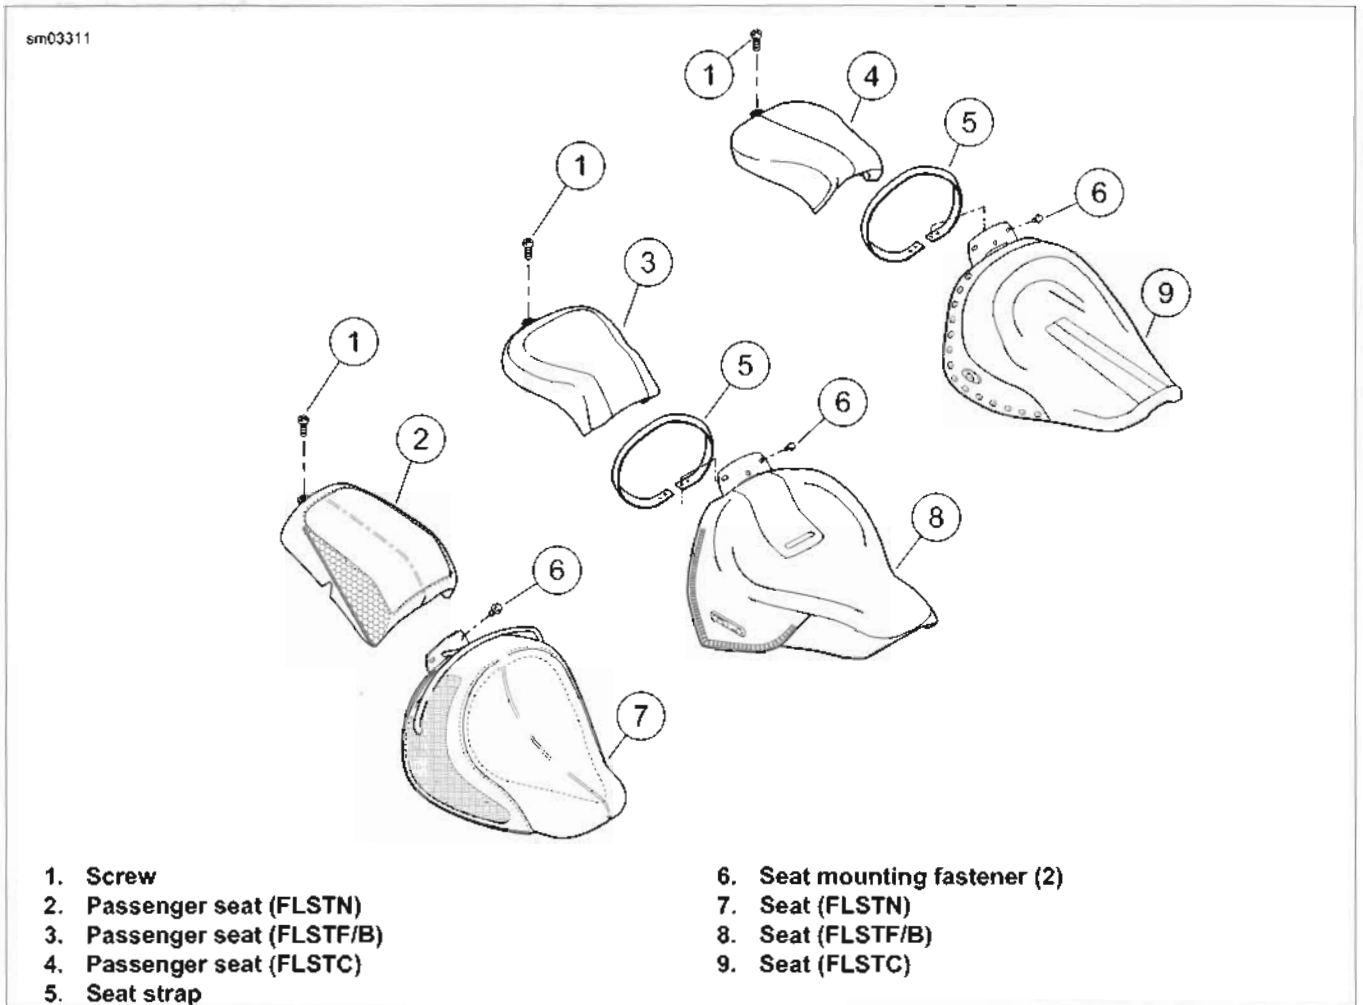

Figure 2-136. Seat: FLSTN/FLSTF/FLSTFB/FLSTC
See Figure 2-136. The passenger seat attaches with a single screw (1) at the rear and engages the seat mounting fasteners (6) at the front.